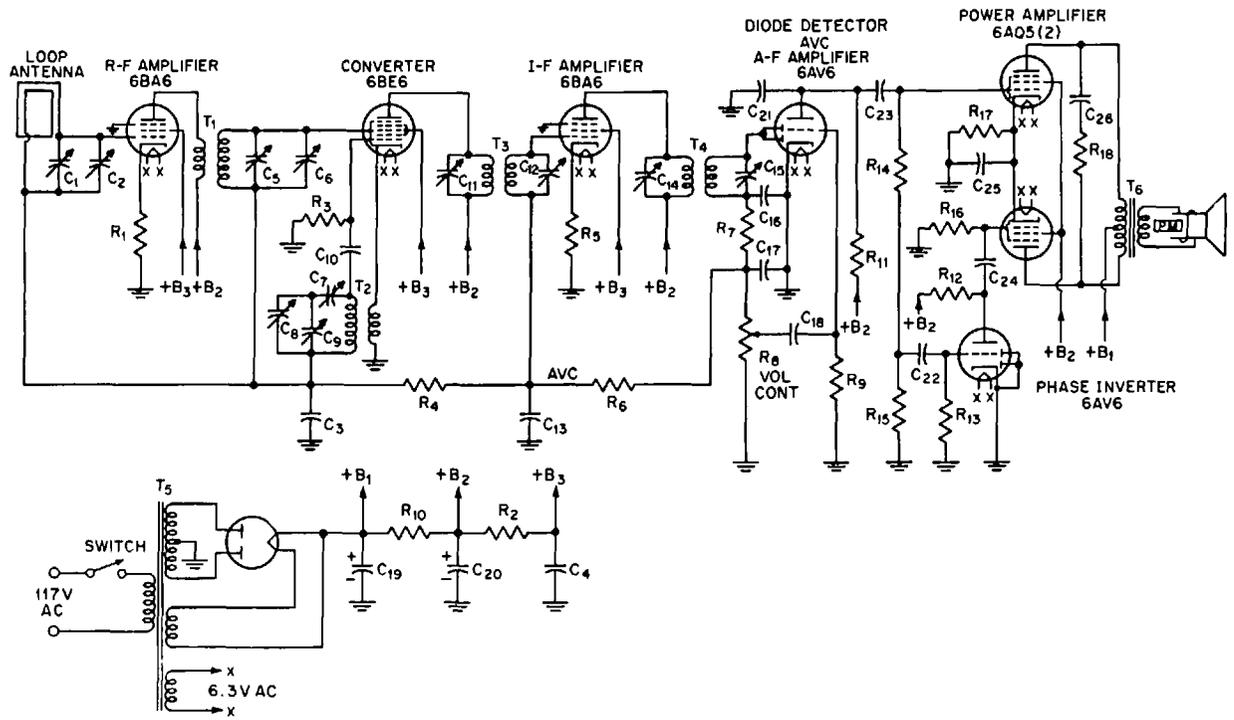

Fig. 29-1. A-C superheterodyne receiver.
**A-C Superheterodyne Receiver.** The circuits presented here are typical, though each manufacturer may provide his own variations. The circuit illustrated in Figure 29-1 is that of an a-c superheterodyne receiver employing a power transformer. Miniature tubes are used throughout, except for the 5Y3-GT rectifier tube.
*List of Values for Receiver in Figure 29-1.*